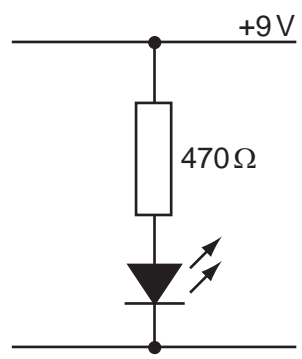

Fig. 6
- (iii) Fig. 6 shows an LED and resistor connected in series.